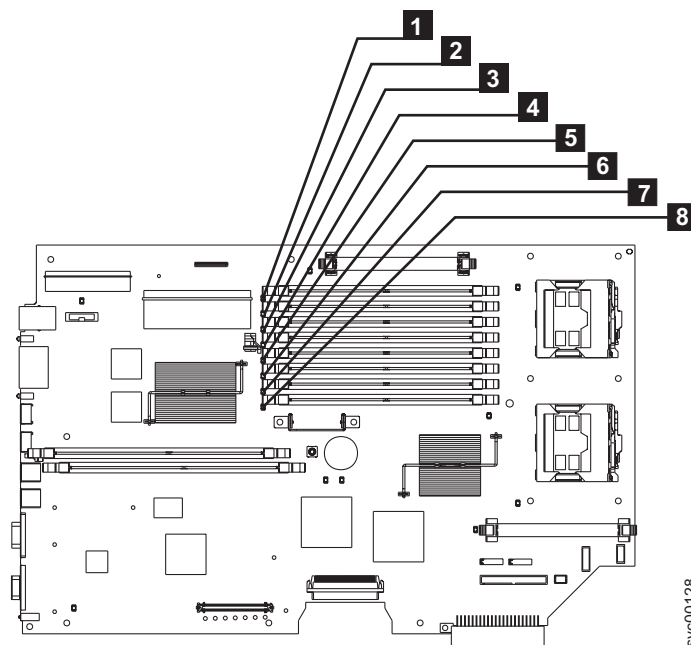

Figure 84. SAN Volume Controller 2145-8F4 or SAN Volume Controller 2145-8F2 system board
**Attention:** If the fault has been isolated only to the bank of modules instead of to a particular module, exchange both modules of the bank. When they are viewed from the front of the SAN Volume Controller 2145-4F2, the modules are numbered 4 through 1, from left to right. Modules 4 and 3 are in bank 2; modules 2 and 1 are in bank 1. When you are viewing the SAN Volume Controller 2145-8F4 or SAN Volume Controller 2145-8F2, the modules are numbered 1 **1** through 8 **8**. See Figure 84. If more than one SAN Volume Controller 2145-8F2 DIMM is indicated by the light path diagnostics, replace the DIMMs one-at-a-time, starting at the lowest numbered DIMM slot that is indicated by the diagnostics.